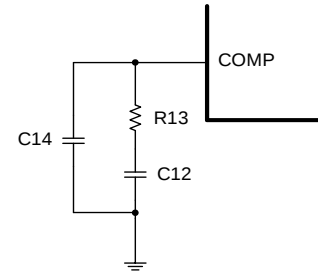

Figure 14: COMP External Compensation
External compensation sets one pole (F_{P1}) and one zero (F_{Z1}) (see Figure 14). F_{P1} can be calculated with Equation (25):